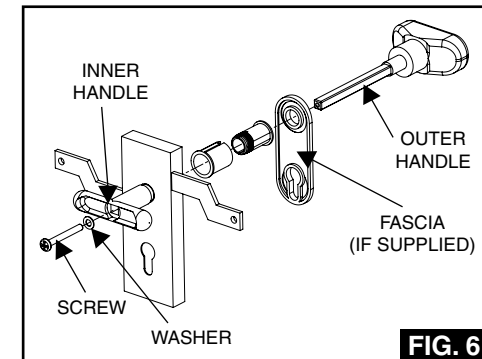

FIG. 6
- b) Remove the screw and washer from the outer handle (See Fig 6) and pass the handle spindle through the lock as shown.